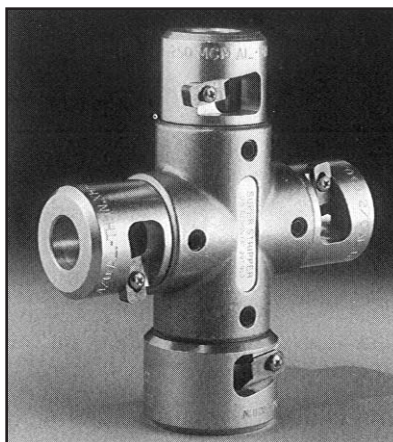

Figure 3
- b) A quicker and easier way is to use one of the several types of insulation strippers that are available to remove insulation. *Figure 3* shows a type useful for popular sizes of conductors (6 AWG through 1000 kcmil).